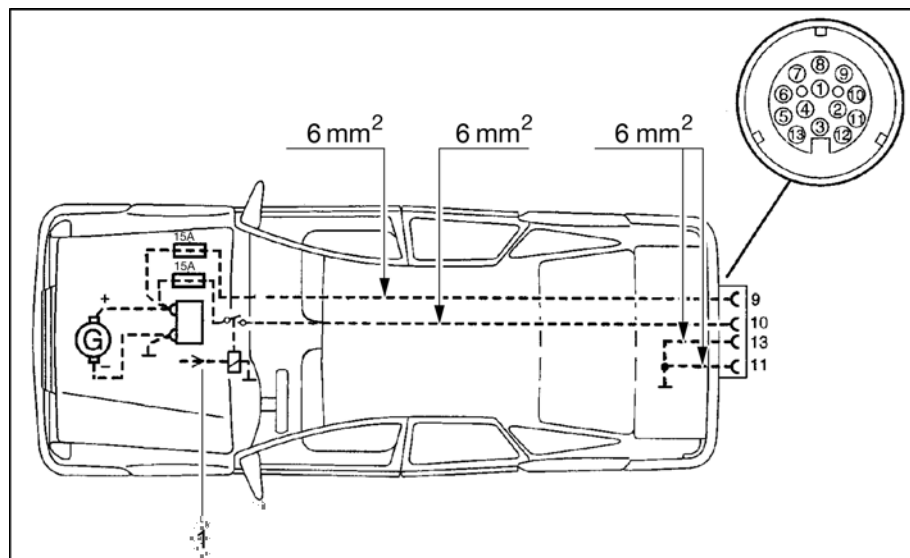

Fig. 102 Towing vehicle installation diagram
- ▷ The towing vehicle must be retrofitted with the corresponding cable cross sections and a relay for the power supply (controlled using the ignition) (see Fig. 102).